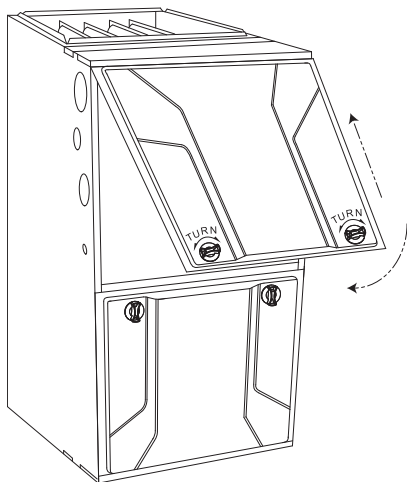

Fig. 13 – Furnace Door Replaced (Upflow Configuration)
7. Replace main furnace door. See Fig. 13.
6. Replace main furnace door. See Fig. 13.